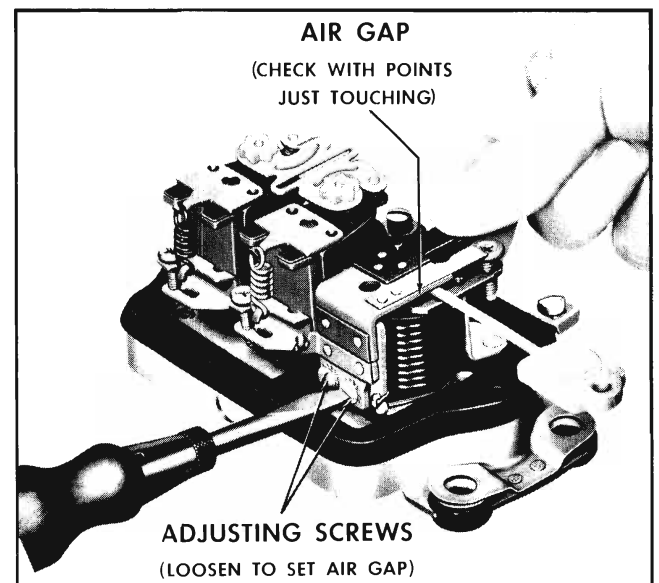

Fig. 11-50 Adjusting Cut-out Relay
1. Place fingers on armature directly above core and move armature directly down until points just close and then measure air gap between armature and center of core. Air gap should be .020". To adjust air gap, loosen two screws at back of relay and raise or lower armature as required. Tighten screws securely after adjustment (Fig. 11-50).